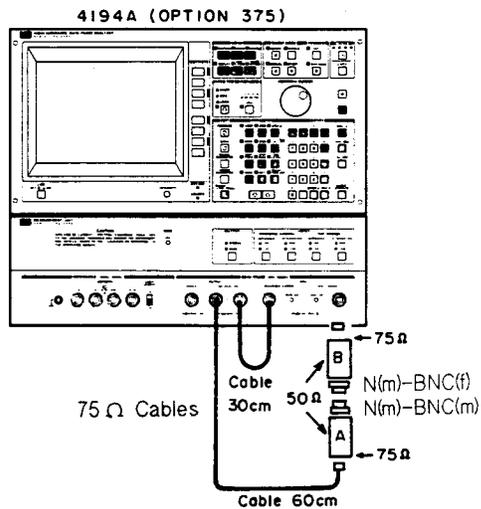

Figure 4-12. HP 11852A Insertion Loss Calibration Setup 2
8. Set up the 4194A as shown in Figure 4-12.